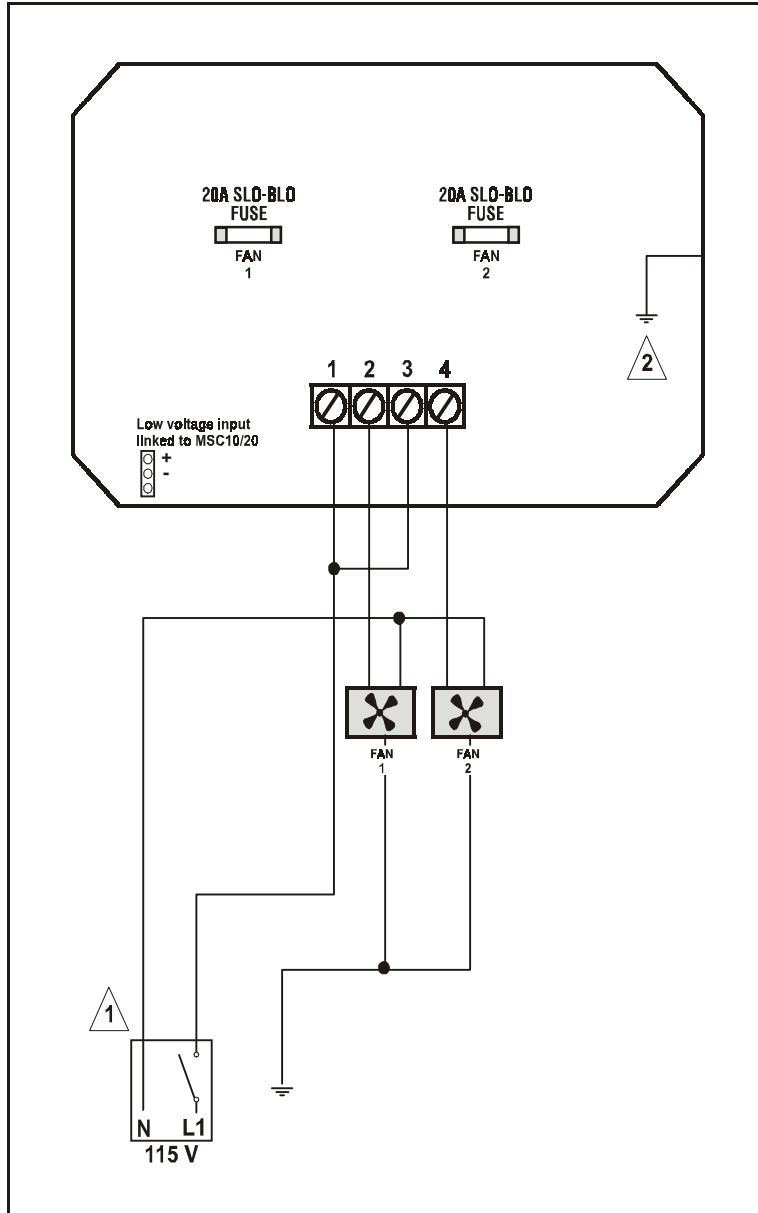

Fig. 1
For the connection procedures which follow refer to Figures 1 and 2.
Refer to figure 1.
- Connect one end of the cable to the (+) and (-) terminals of the CM10-2 low voltage terminal block. Refer to the bottom left corner of figures 1 or 2.
**Notes for Figures 1, and 2**
-  Connect the grounding wire from the power cord to the ground terminal wire (shown in figures 1 and 2) inside the housing.